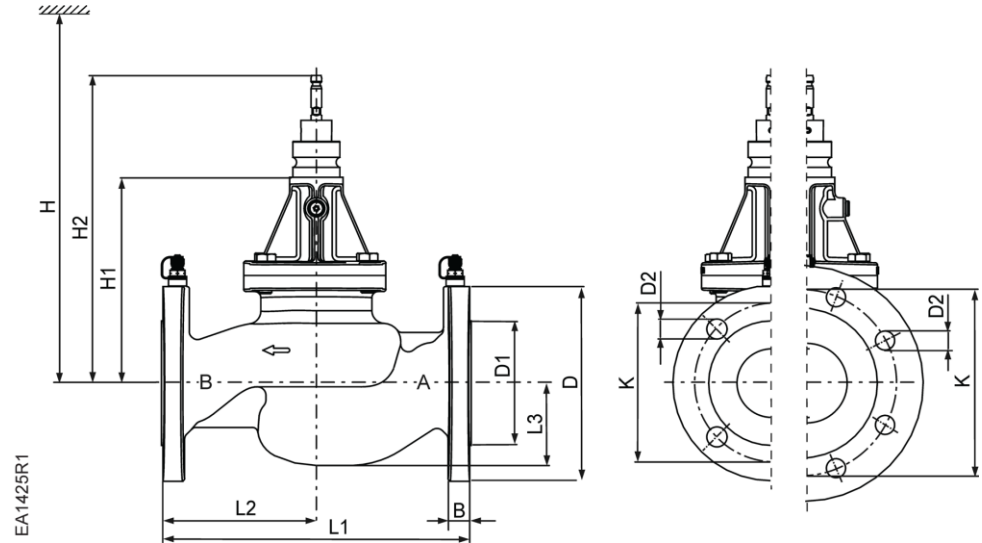
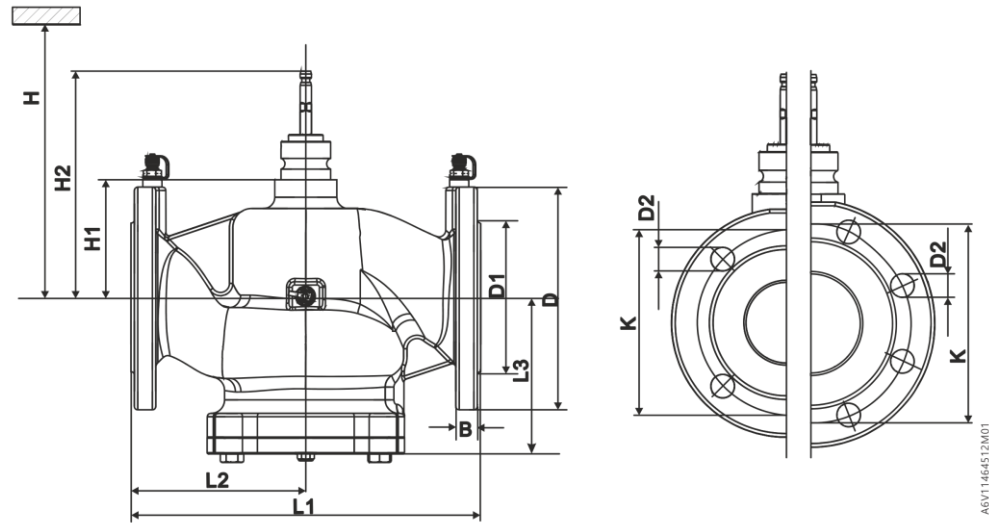

Figure 8. 599-07314 and 599-07319 Series Valves.
Figure 9. 599-0733X Series Valves.
- Allow sufficient space for servicing the valve and actuator. See Figure 8, Figure 9, and Table 9 for valve body dimensions, and dimensions of the service envelope recommended around the actuator.